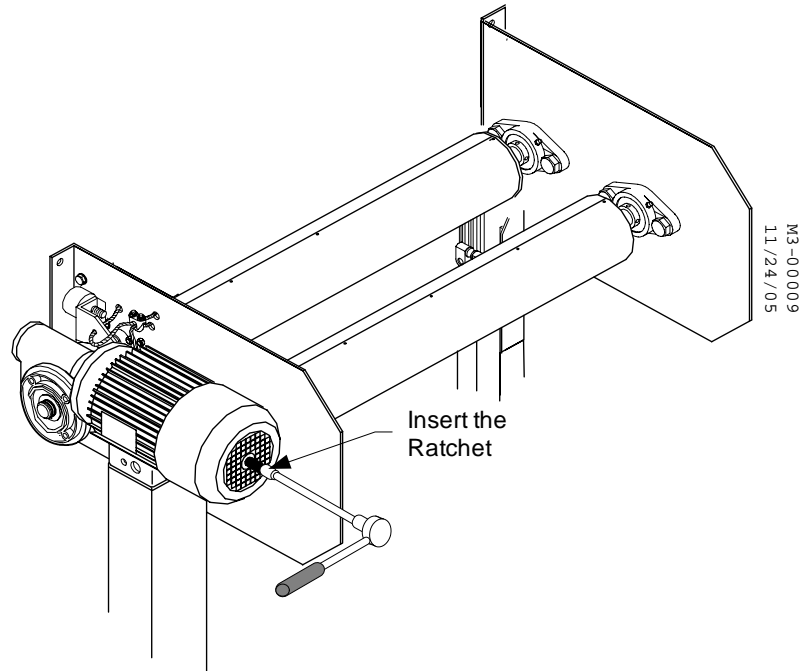

Figure 2-19: Move Curtain through Drive
3. Insert the ratchet and key into the drive motor fan opening. See Figure 2-19.